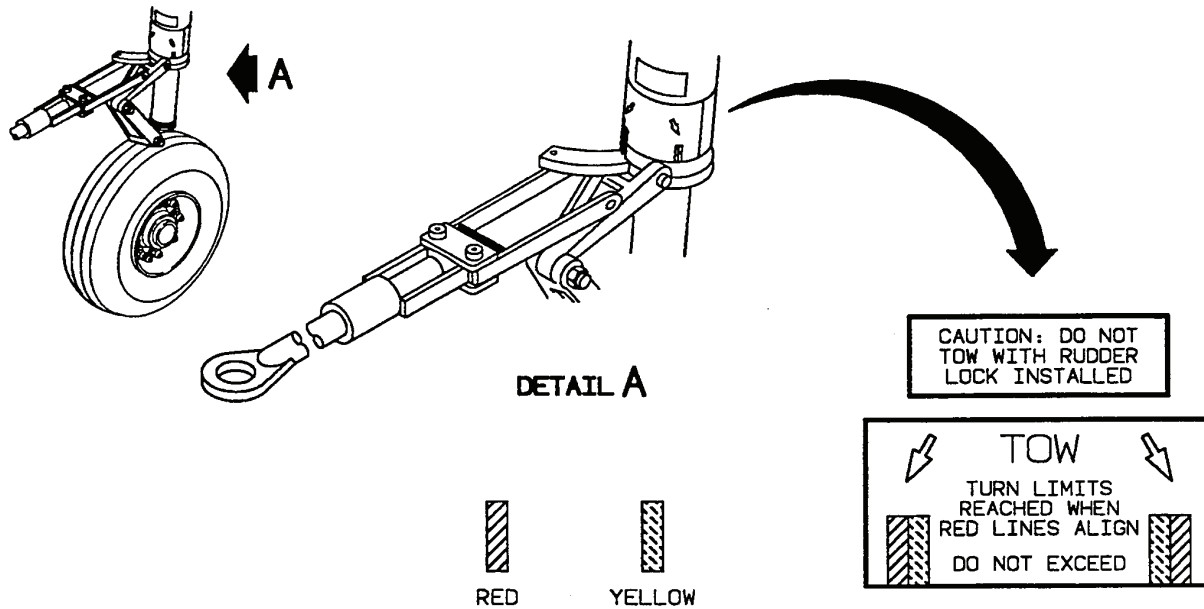

Figure 2-46. Towing Turn Limits
When the aircraft is being towed, a qualified person should be in the pilot's seat to maintain control by use of the brakes. When towing, do not exceed nose gear turn limits, Figure 2-46. Avoid short radius turns, and always keep the inside or pivot wheel turning during the operation. Do not tow aircraft with rudder locks installed, as severe damage to the nose steering linkage can result. When moving the aircraft backwards, do not apply the brakes abruptly. Tow the aircraft slowly, avoiding sudden stops, especially over snowy, icy, rough, soggy, or muddy terrain. In Arctic climates, tow the aircraft by the main gears, as an immense breakaway load, resulting from ice, frozen tires, and stiffened grease in the wheel bearings may damage the nose gear.
(2) *Towing.* Towing lugs are provided on the upper torque knee fitting of the nose strut. When it is necessary to tow the aircraft with a vehicle, use the vehicle tow bar. Never exceed the turn limit arrows displayed on the placard located on the nose gear assembly. Refer to Figure 2-46.